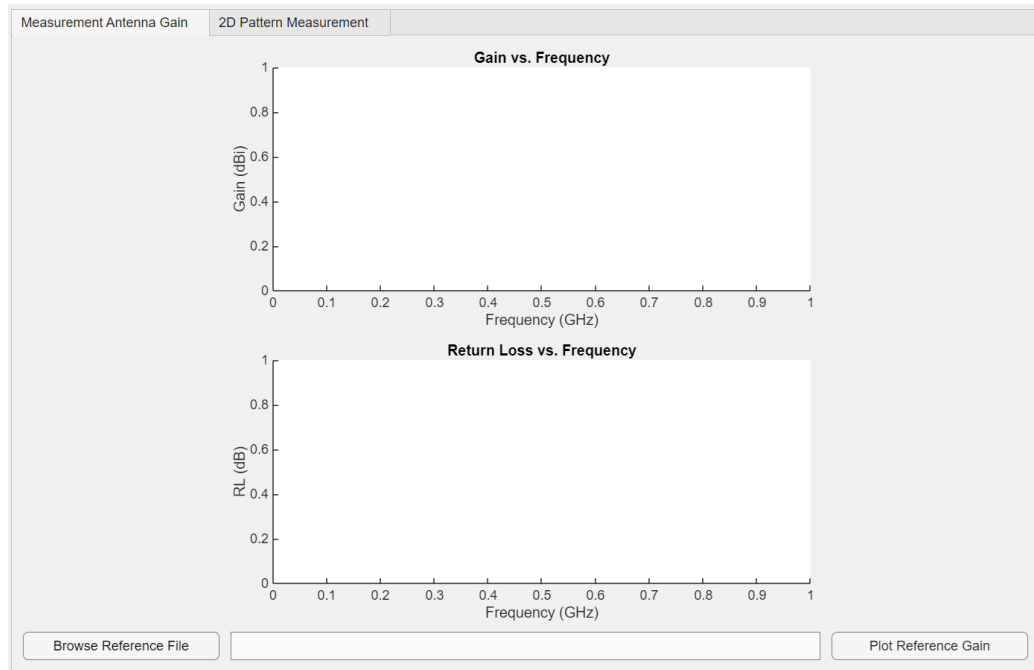

Figure 10: Measurement Antenna Tab
- Navigate to the **Measurement Antenna Tab**, and locate the **Browse Reference File Button**, as shown in **Figure 10**.